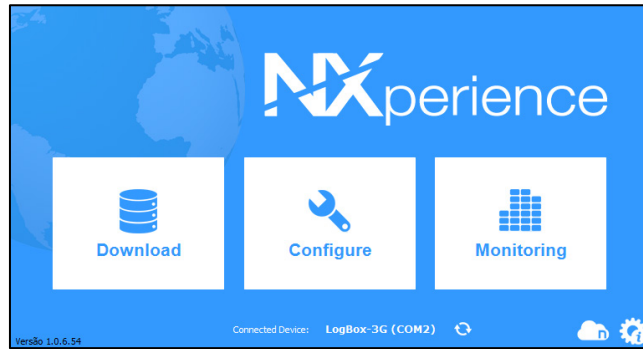
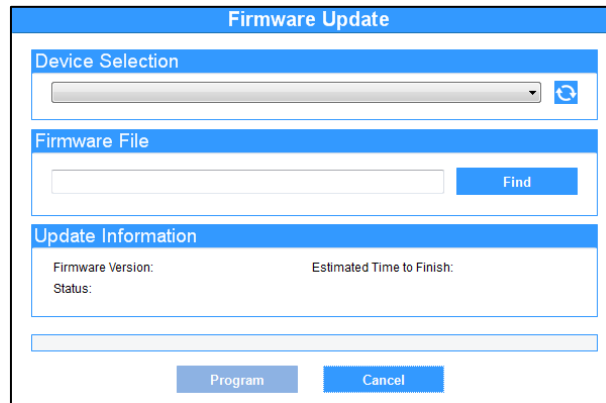

Fig. 54 – NXperience home screen
Fig. 55 – Firmware update
- f. On the **NXperience** startup screen, as shown in **Fig. 54**, pressing the Ctrl + Shift + F12 keys simultaneously will cause the firmware update screen to reappear, as shown in **Fig. 55**.